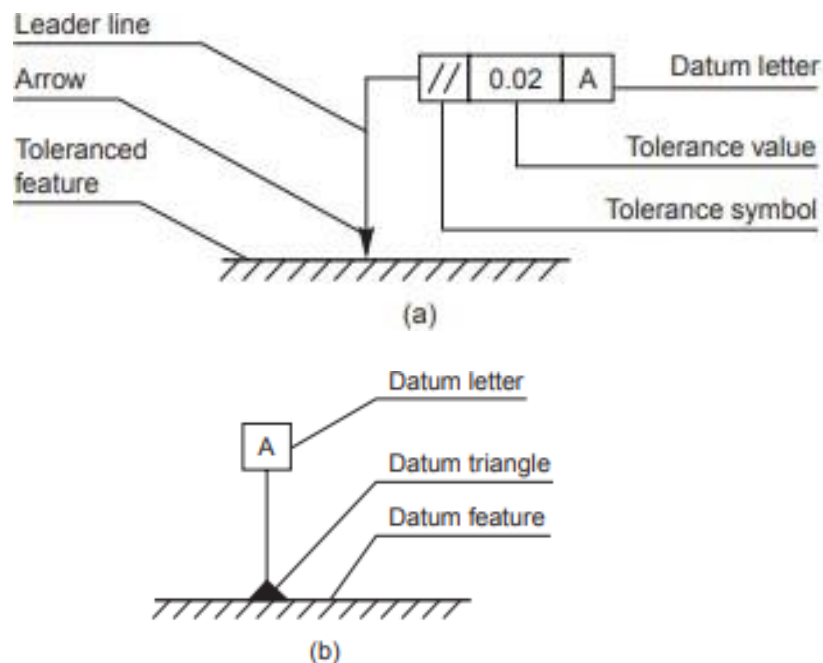

Fig. 15.17
It is a theoretically exact geometric reference (such as axes, planes, straight lines, etc.) to which the tolerance features are related (Fig. 15.17).
It is a feature of a part, such as an edge, surface, or a hole, which forms the basis for a datum or is used to establish its location (Fig. 15.17).
1. The datums are indicated by a leader line, terminating in a filled or an open triangle (Fig. 15.17).
2. Datum Letter: To identify a datum for reference purposes, a capital letter is enclosed in a frame, connected to the datum triangle (Fig. 15.17).
To eliminate the need for descriptive notes, geometrical tolerances are indicated on drawings by symbols, tolerances and datums, all contained in compartments of a rectangular frame, as shown in Fig. 15.17.